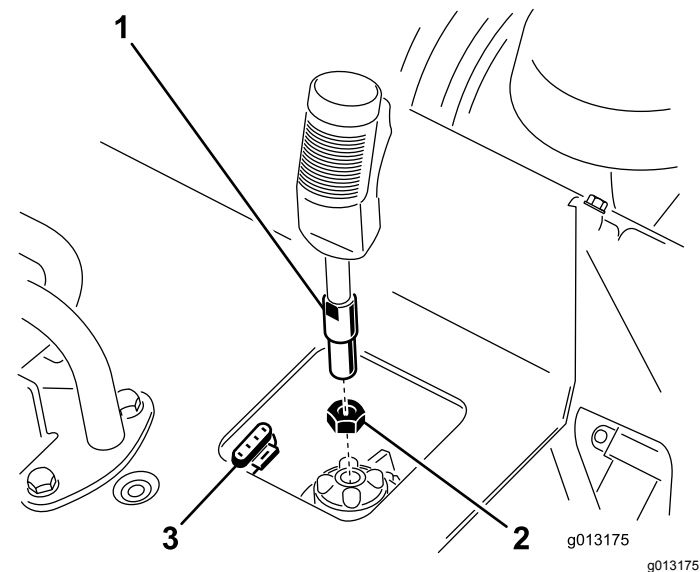

Figure 3
1. Thread the jam nut onto the grinder control lever (Figure 3).
2. Thread the grinder control lever into the receptacle on the control panel (Figure 3).
3. With the trigger oriented forward, tighten the jam nut against the receptacle to secure the lever in place (Figure 3).
4. Connect the wire on the lever to the 4-pin connector under the control panel (Figure 3).